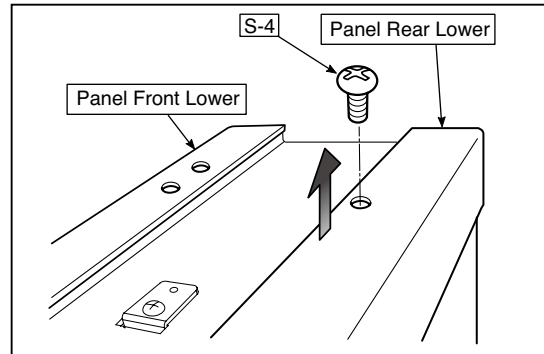

Fig.22
10) Remove the Panel Front Lower and Panel Rear Lower (See Fig. 22)
1. Remove the "S-4" screw shown in the figure 22 and then remove the Panel Front Lower and Panel Rear Lower.